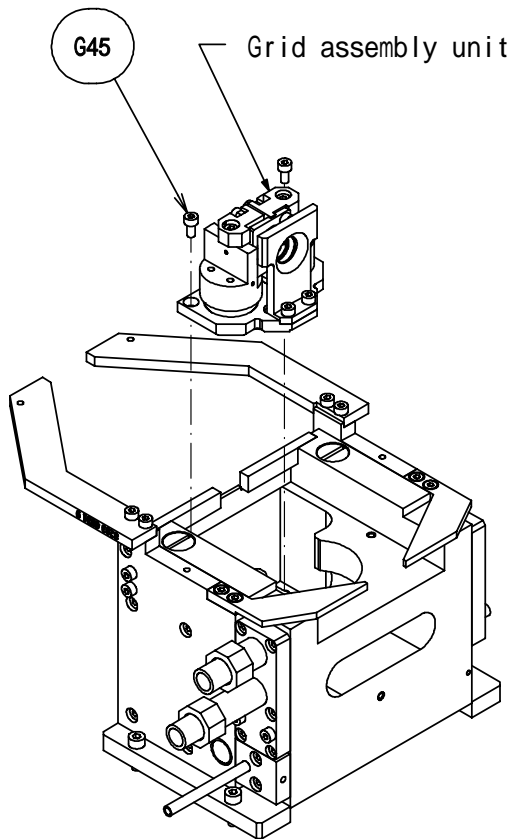

Fig. 22
6. Remove the two bolts (G45) and extract the entire grid assembly unit (Fig. 22).